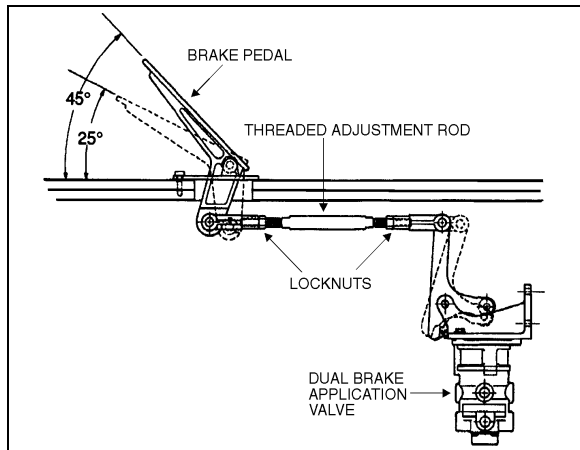

FIGURE 12: BRAKE PEDAL ADJUSTMENT 12040
The E-10P dual brake valve is a floor mounted, foot-operated type brake valve with two separate supply and delivery circuits. This valve is located in the front service compartment (Fig. 12).
1. Replace the linkage, loosen threaded rod lock nuts and screw or unscrew the threaded adjustment rod in order to obtain a 45° brake pedal inclination (Fig. 12).